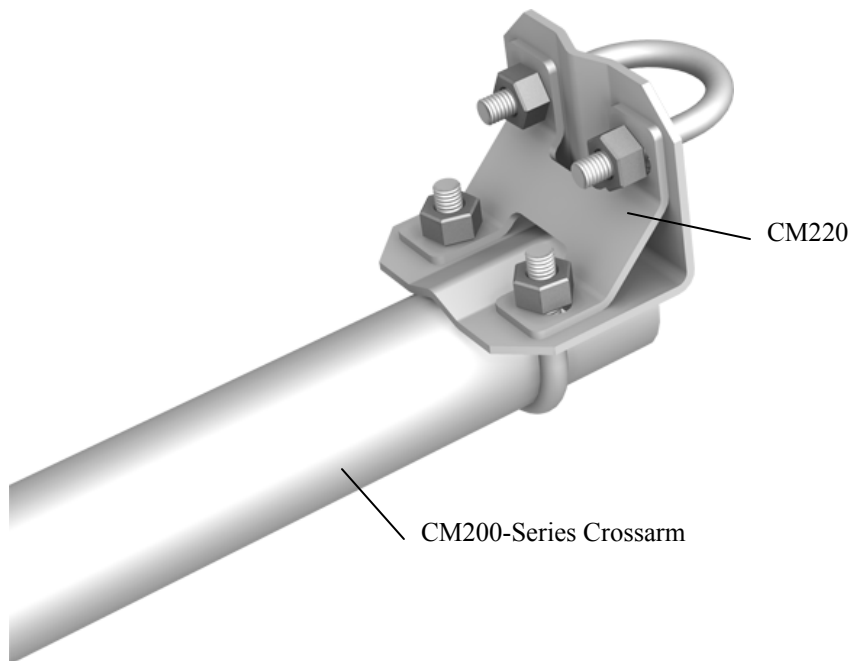
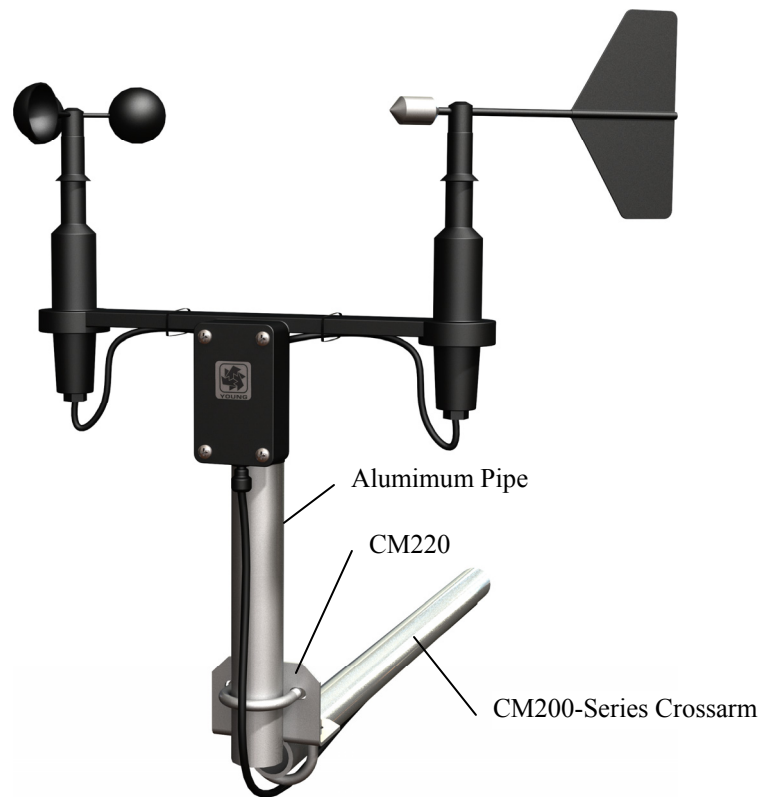
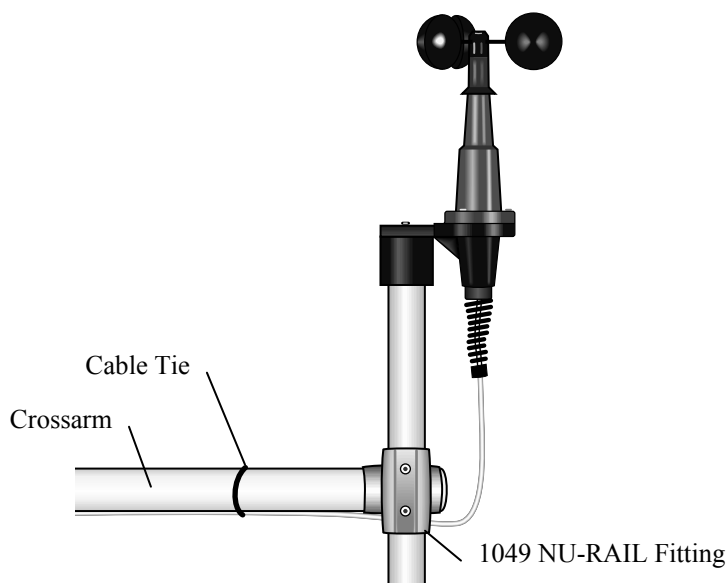

FIGURE 4-1. CM200-Series Crossarm with CM220 Right Angle Mounting Bracket
FIGURE 4-2. 03002 mounted to CM200-Series Crossarm with CM220
FIGURE 7-2. 03101 mounted to a crossarm via a 1049 NU-RAIL
- CM220 Right-Angle Mounting Kit (FIGURE 4-1 and FIGURE 4-2),
The 03101 mounts to a threaded 0.75 in. IPS schedule 40 pipe (1.05 in. O.D.). A 10 in. long mounting pipe ships with the 03101. The mounting pipe typically fastens to a CM200-series crossarm via the CM220 mount (see FIGURE 4-1 in *Quickstart*) or 1049 NU-RAIL fitting (FIGURE 7-2). The